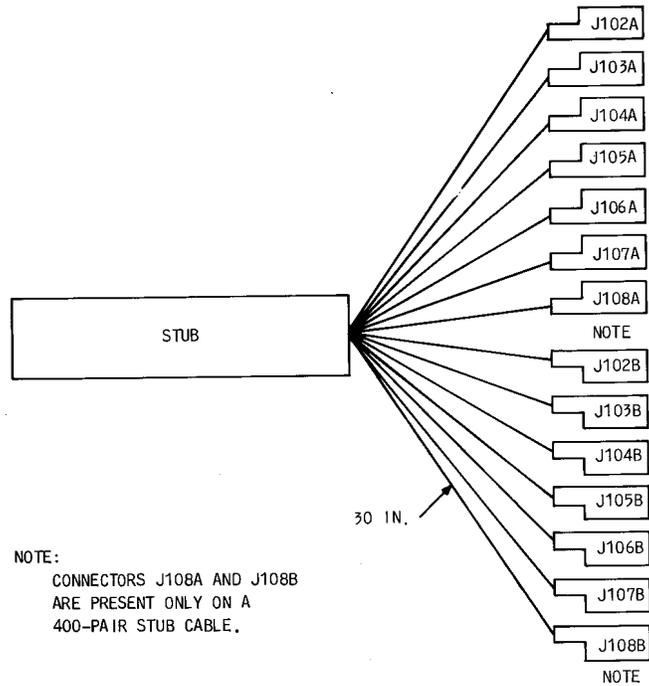
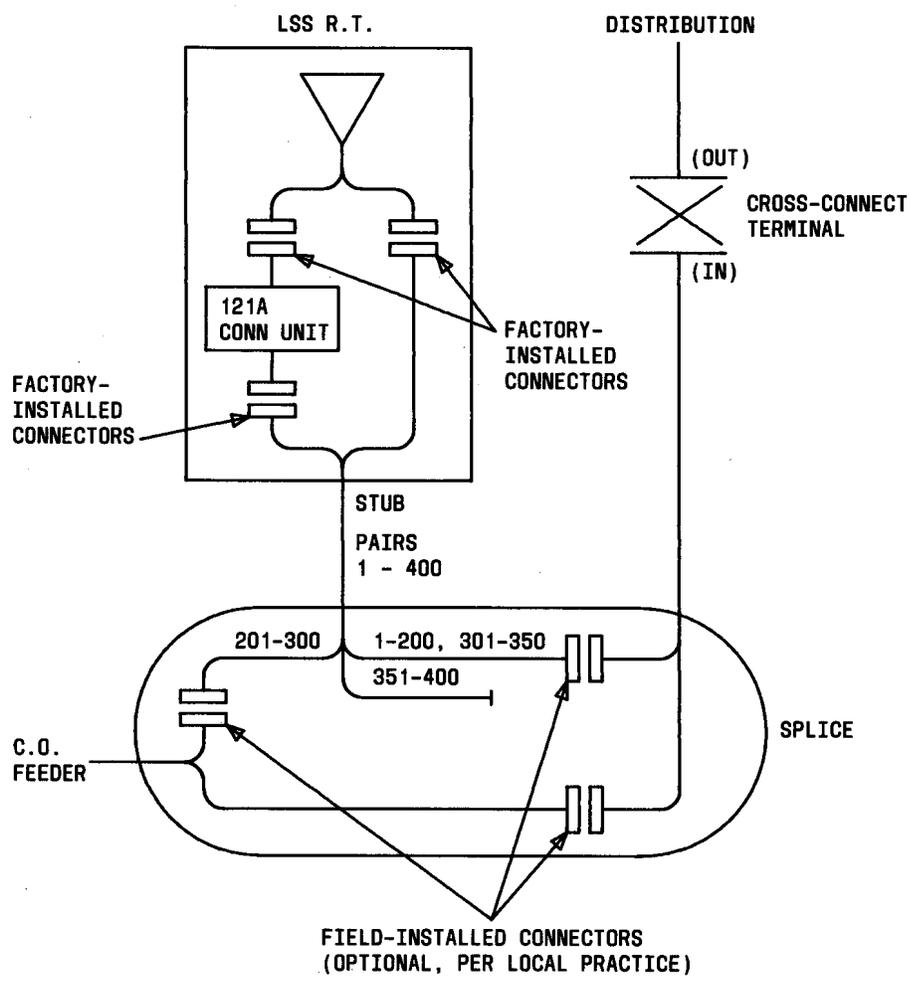

Fig. 14—Stub Cable Connectors
Fig. 15—Splicing Arrangements With 121A Connecting Unit
4.01 Figure 14 illustrates the 400-pair stub cable and Fig. 15 through 20 illustrate the methods of mating the connector for different configurations.
New systems should be equipped with 121A connecting units and follow the method shown in Fig. 15 through 18. Early systems obtained without the 121A connecting units should follow the methods shown in Fig. 19 through 21.
4.02 Splice the unconnectorized end of the stub cable to the assigned feeder pairs from the CO and terminate the remaining pairs in a separate cross-connecting terminal or interface as outlined on engineering work print (Fig. 15 and 22). Tables A and B list by pair number in the stub cable the